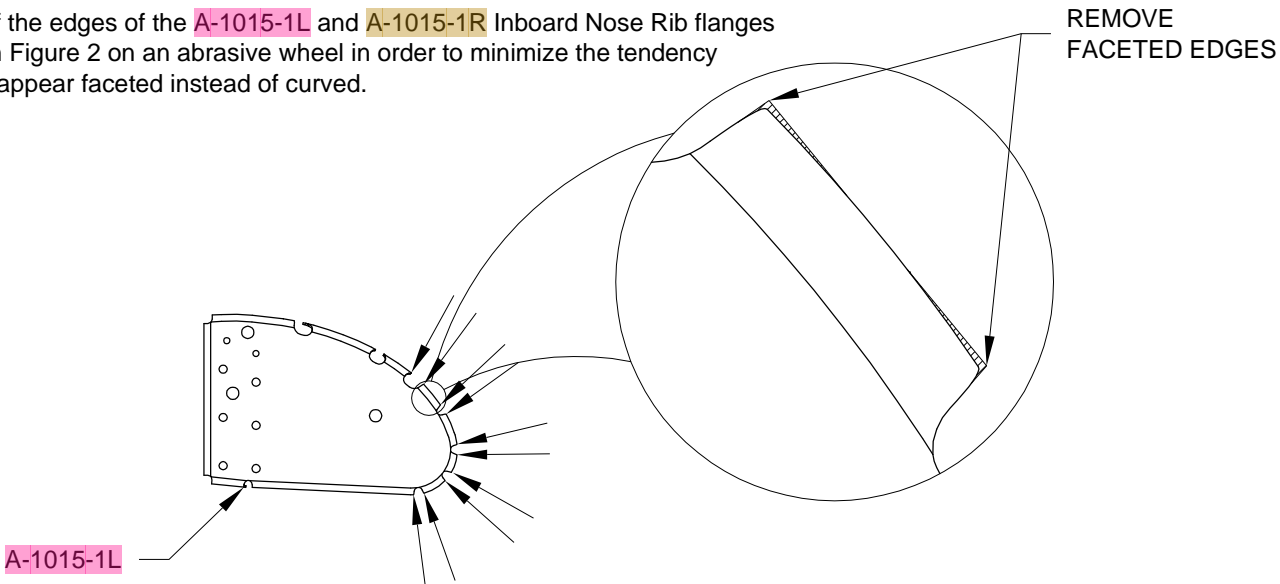

FIGURE 2: BUFF FLANGE EDGES
Step 3: Buff the edges of the A-1015-1L and A-1015-1R Inboard Nose Rib flanges as shown in Figure 2 on an abrasive wheel in order to minimize the tendency for them to appear faceted instead of curved.